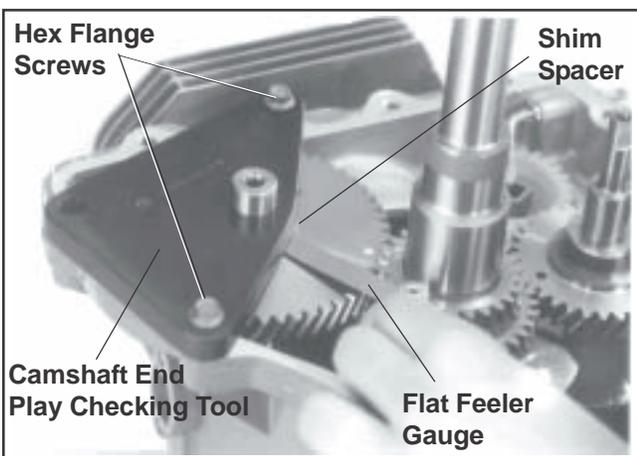

Figure 11-13. Checking Camshaft End Play.
2. Install the camshaft end play checking tool (see Section 2) to the crankcase and camshaft. Secure the tool to the crankcase with the hex flange screws provided. See Figure 11-13.